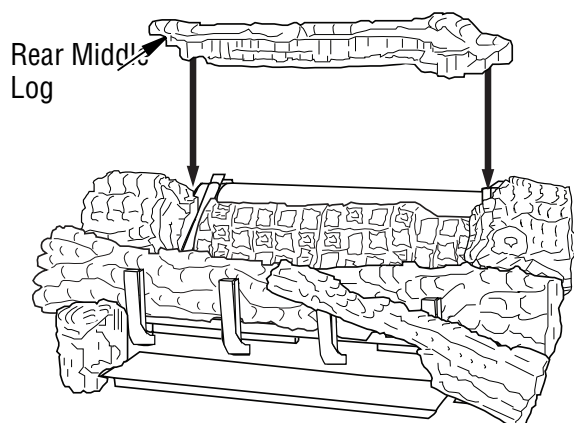

Figure 35 - Installing Rear Middle Log
8. The rear middle log (18" D-068, 24" & 30" D-042) should fit between the ramp log and the rear burner. The left and right middle logs have recessed areas for the rear middle log to sit into (See **Figure 35**). There may be a small gap between the rear middle log and the ramp log, this is normal.. Be careful not to push the rear burner out of position while installing this log.